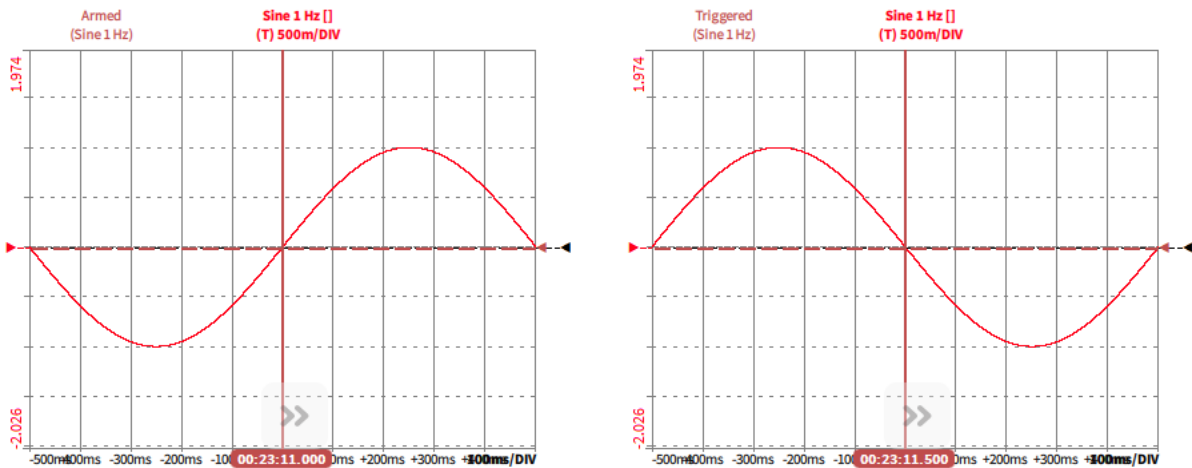

Fig. 8.35: Trigger on a *Rising* (left) and on a *Falling* (right) edge
- In the *Edge* selection, the user can select if the selected signal shall be triggered on a *Rising* or on a *Falling* edge. The difference between the two modes is shown in Fig. 8.35 for a 1 Hz sine wave that has an amplitude of 1.